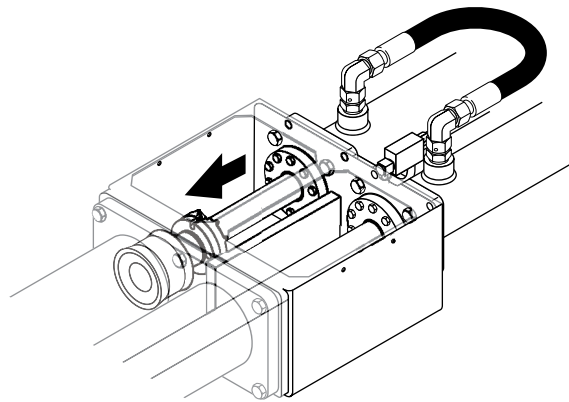

Figure 26
4. Restart the engine and clear the E-stops. Press the concrete pump forward or reverse button and Ram Change Mode button simultaneously. Slowly extend the cylinder until the ram is installed in the material cylinder, but the mounting flange is still exposed enough to remove the nut and bolt (Figure 26). When in position, release the concrete pump forward/reverse or Ram Change button to stop the differential cylinders. Shut off the engine. Remove the nut and bolt.